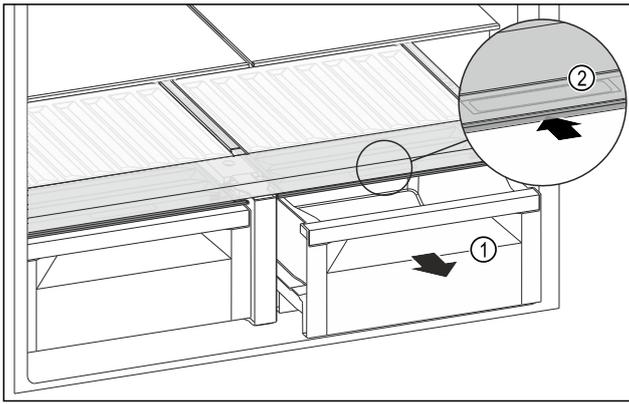

Fig. 139
- ▶ Pull out the drawer Fig. 139 (1).
- ▶ Grasp the recessed grip Fig. 139 (2) on the compartment lid and push the compartment lid backwards at the same time.